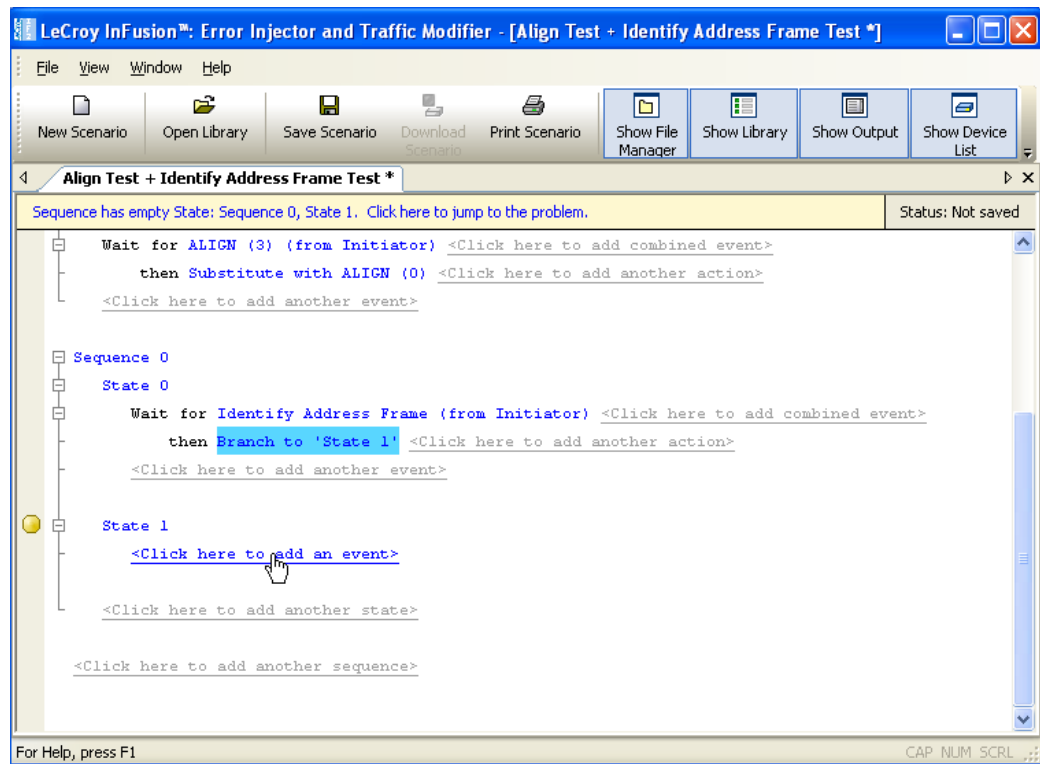

Figure 79 Example 7: Adding an Event for the Second State
- Step 10** In the State 1 area, click on the prompt to **add an event** (Figure 79).